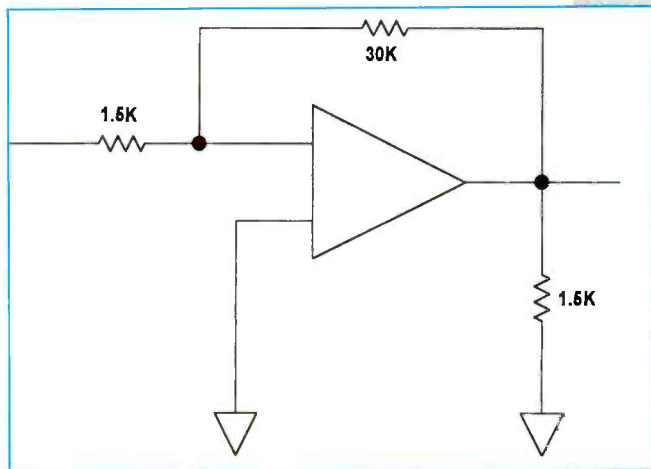

Figure 1. What is the gain of this op amp?
Figure 1. In all three of these Magnavox VCRs that were lightning damaged, and thought to be beyond economical repair, components in the power supply had been destroyed. This schematic diagram shows the locations of the components that I identified as destroyed, and replaced, to restore all three of the units to perfect operating condition.
Since the damage to all three units was similar, I'll use one of them to illustrate how the jobs went. See Figure 1.
As you can see by studying Figure 1, the power supply uses several values of resistors in the primary. Some are more likely to fail than others. I suggest you keep a healthy supply of the following values in stock: 1.5 Ω , 27 Ω , 1k Ω , and 56k Ω .
- What is the gain of the op amp in Figure 1?
In doing research for this article, the staff visited several distributors' websites. There are a number of distributors listed in the **ES&T** March Annual Buyers' Guide issue. If you're interested in learning more about what kinds of aids are available to service technicians, we suggest having a look at a few of these sites, or ordering their catalogs. Figure 1 is a list of products made for making service work easier, faster, and more efficient. A glance at the list might make a technician or a service manager aware of the wealth of products that are available that can make service go faster. We found this list at the website of one manufacturer that offers such products, as well as repair and rework services.